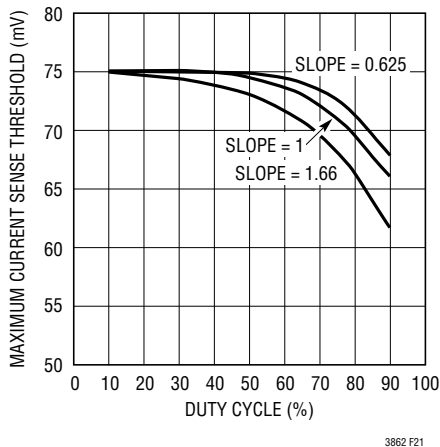

Figure 21. Maximum Sense Voltage Variation with Duty Cycle and Slope Gain
The peak sense voltage threshold for the LTC3862 is 75mV at low duty cycle and with a normalized slope gain of 1.00, and is measured from SENSE⁺ to SENSE⁻. Figure 21 illustrates the change in the sense threshold with varying duty cycle and slope gain.
11. The maximum current sense threshold for the LTC3862 is 75mV at low duty cycle and a normalized slope gain of 1.0. Using Figure 21, the maximum sense voltage drops to 73mV at a duty cycle of 51% with a normalized slope gain of 1, so the sense resistor is calculated to be: